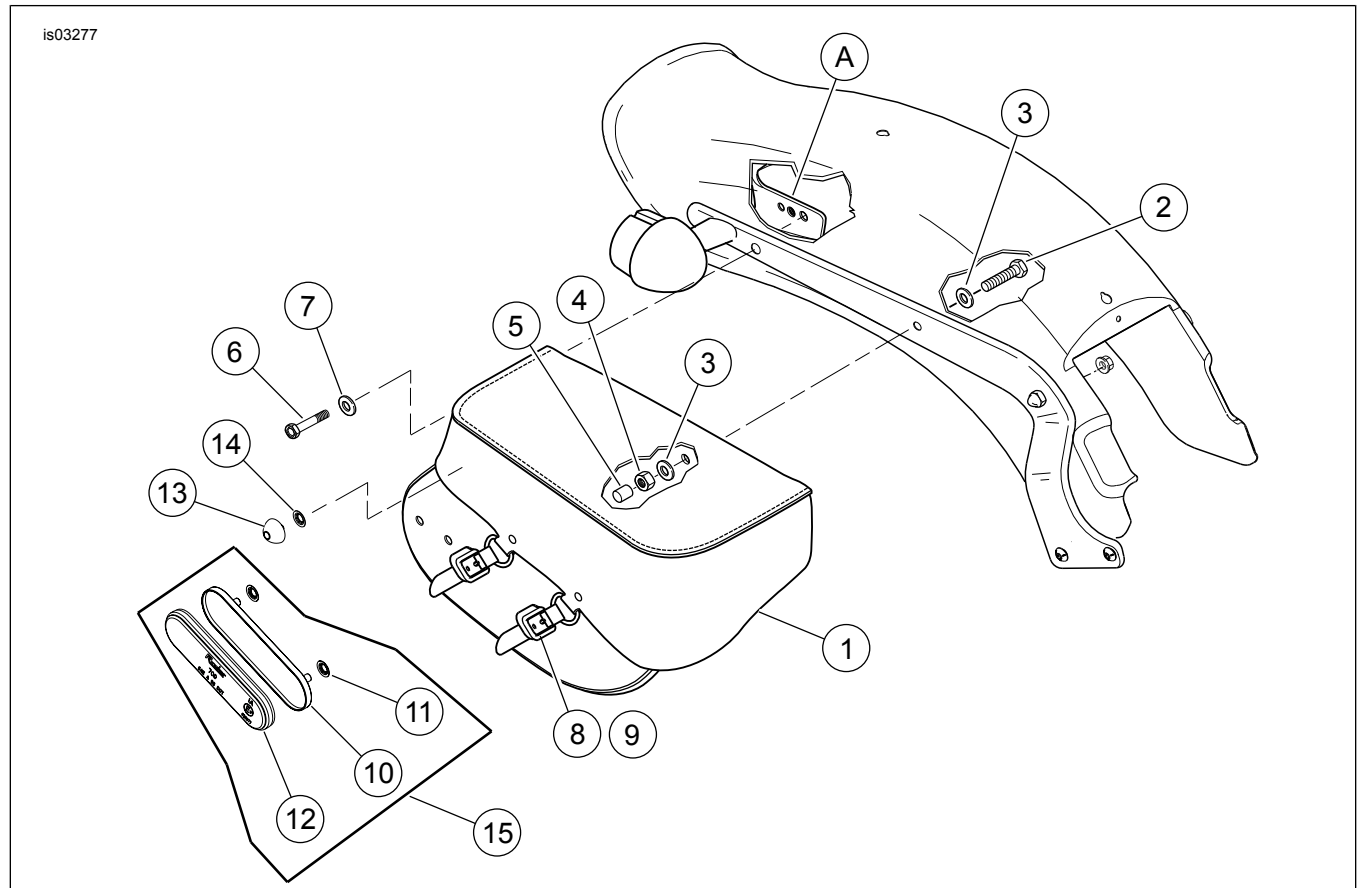
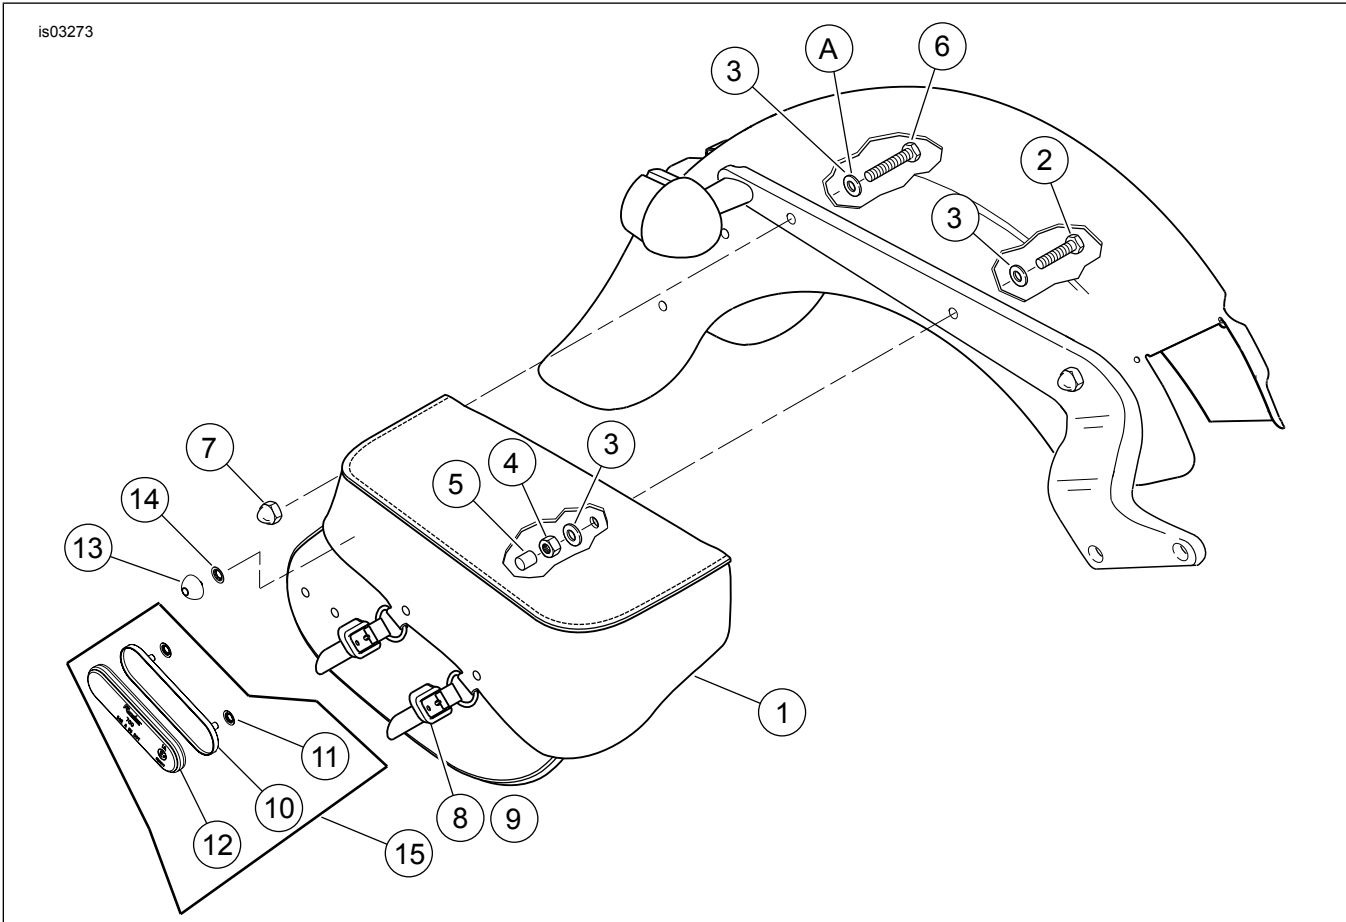
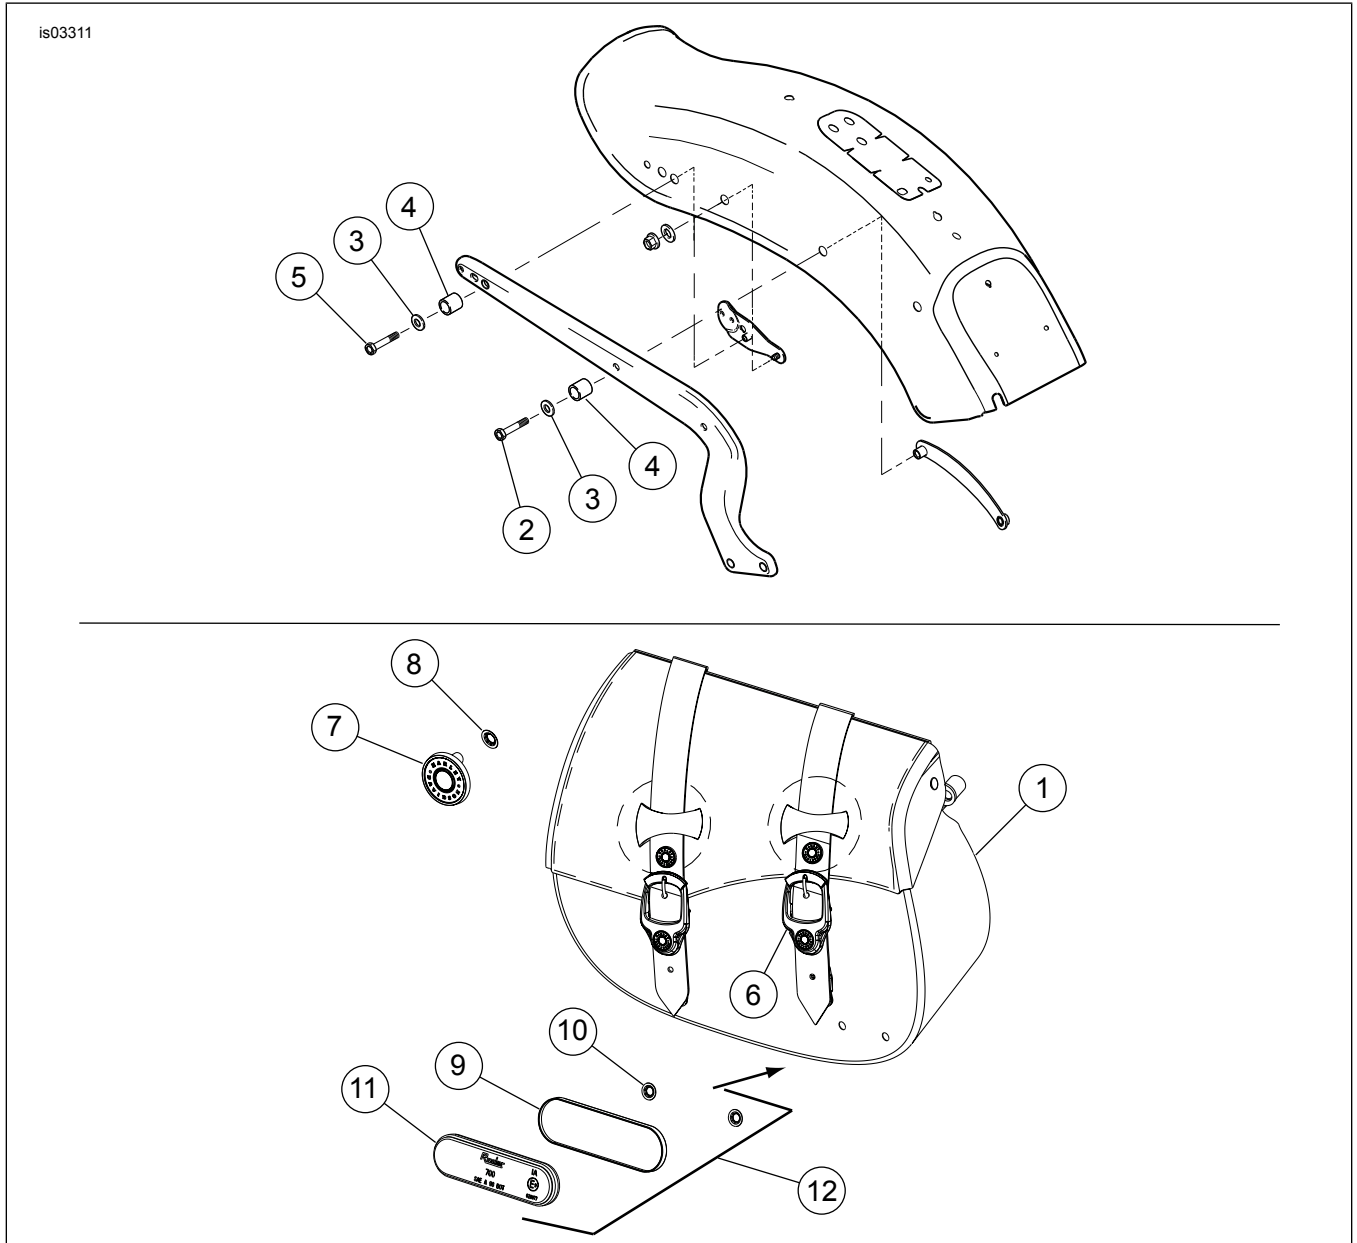

Figure 5. Service Parts: Softtail Saddlebag Kits (Installation Shown on 2000-2002 FXST Models)
Figure 6. Softail Saddlebag Kits (Installation Shown on 2000-2002 FLST and 1984-1999 FLSTF, FXST Models)
Figure 9. Service Parts: 2007 FXSTC Saddlebag Kit
- See Figure 5 and Figure 6. Attach front of saddlebag (1) to fender using screw (2) washer (3) and nut (4).
- FXST models:** See Figure 5. Use the correct screw (6) and washer (7) as shown. The screw threads into the insert in the license plate bracket (A). Hand-tighten to keep in place.
- See Figure 5 and Figure 6. Slip the thread protector (5) over the end of front screw (2).
1. See Figure 5 through Figure 9. Position reflector mount on lower right corner of saddlebag.